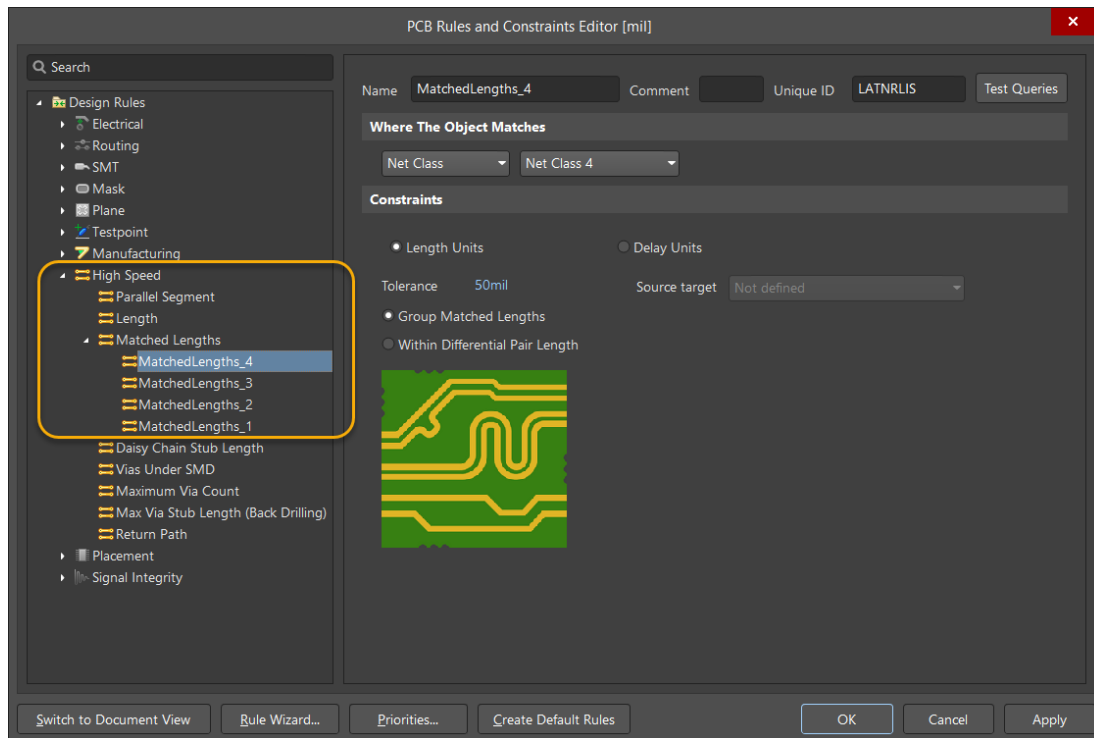

Figure 11. PCB Matched Length rule for ActiveRoute
30. Open the *PCB Rules and Constraint Editor (D»R)*, section *High Speed – Matched Lengths*, Figure 11. The rules MatchedLengths\_4 to MatchedLengths\_1 defines the length tuning for the four net classes from U2 to U5 we prepared for this exercise.